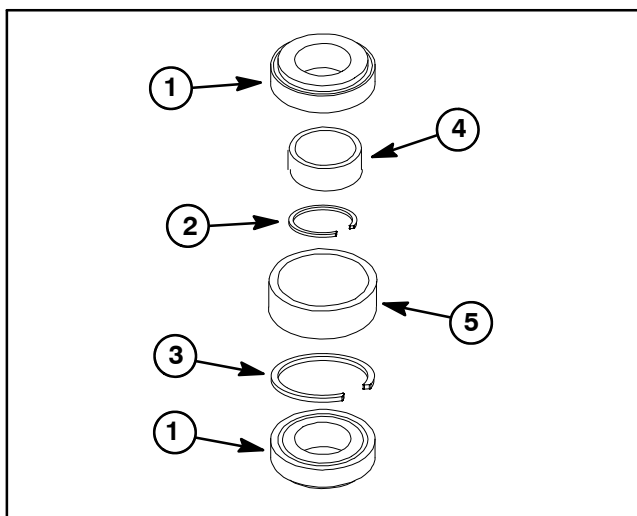

Figure 11
**NOTE:** A replacement spindle bearing set contains two (2) bearings, a spacer ring and a large snap ring (items 1, 2 and 3 in Fig. 11). These parts cannot be purchased separately. Also, do not mix bearing set components from one deck spindle to another.
**NOTE:** A replacement bearing spacer set includes the inner spacer and outer spacer (items 4 and 5 in Fig. 11). Do not mix bearing spacers from one deck spindle to another.
**IMPORTANT: If bearings are being replaced, make sure to use the spacer ring that is included with new bearing set (Fig. 11).**